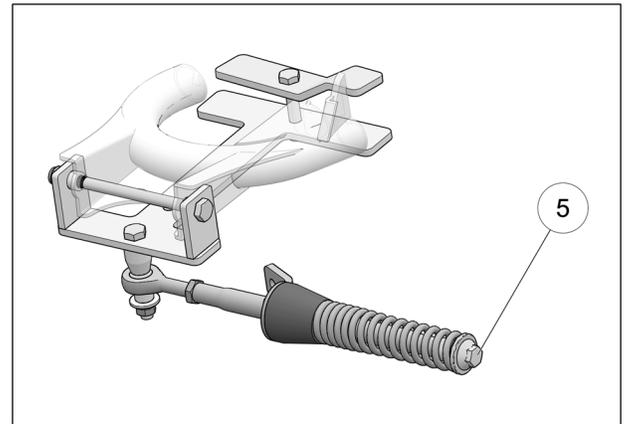

Fig. 13
11. Verify that spring assembly bolt (5) is tightened to the recommended torque specification: $75 \text{ N}\cdot\text{m}$ [$55 \text{ lb}\cdot\text{ft}$]. Refer to Fig. 13